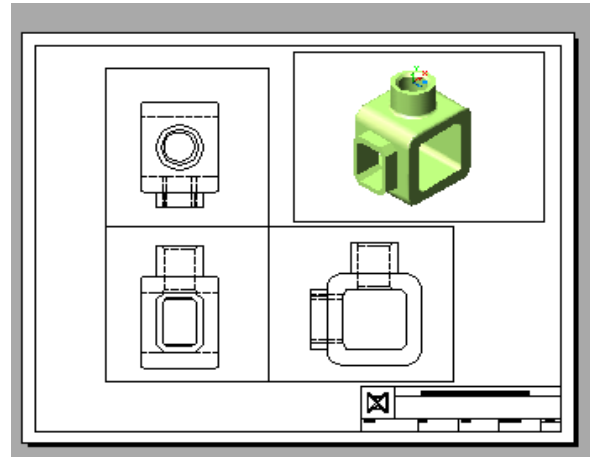

Figure Step 6
Step 6 Set the scale of all four viewports to 1.25 and lock their display. (Figure Step 6)